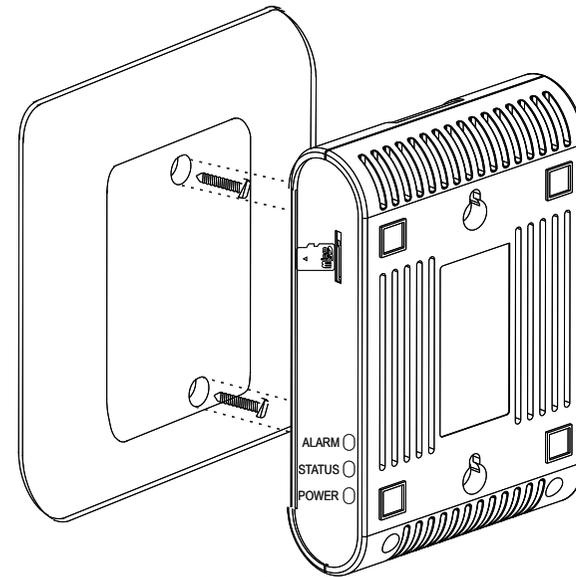

Figure 1
- Use the mounting template (refer figure 1) to drill holes of appropriate size and at appropriate distance.